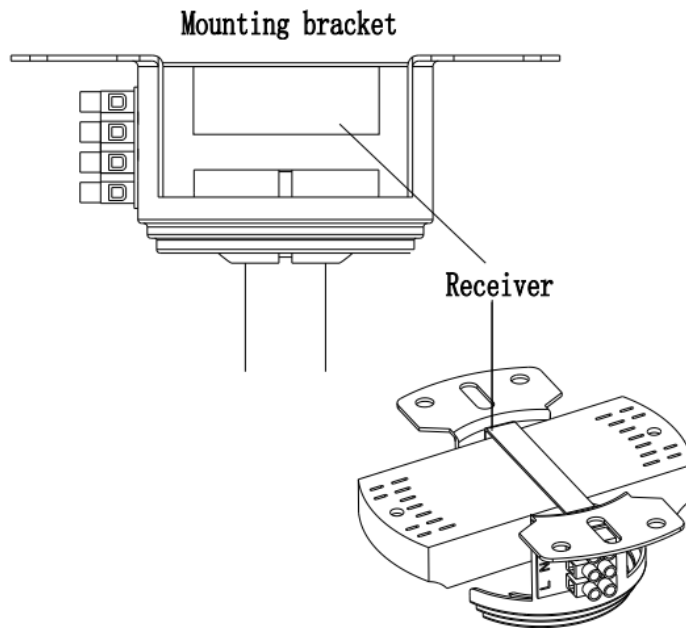

Fig. 10
10. Carefully insert the receiver above the hanger ball in the remainder spacing in the mounting bracket. Take care not to damage or loosen any of the wiring. (Fig. 10).